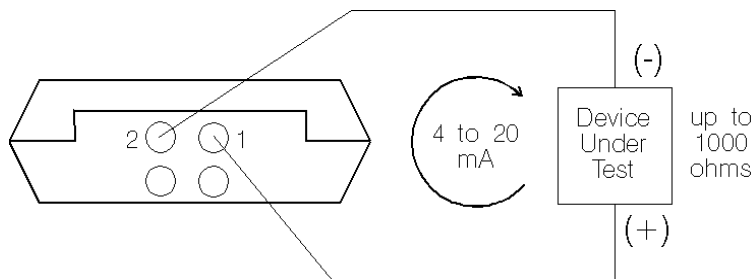

Figure 1 - Current Source Mode
1. When operating in the current source mode, the PCL431 has the capability to drive loads up to 1000 ohms as shown in Figure 1.